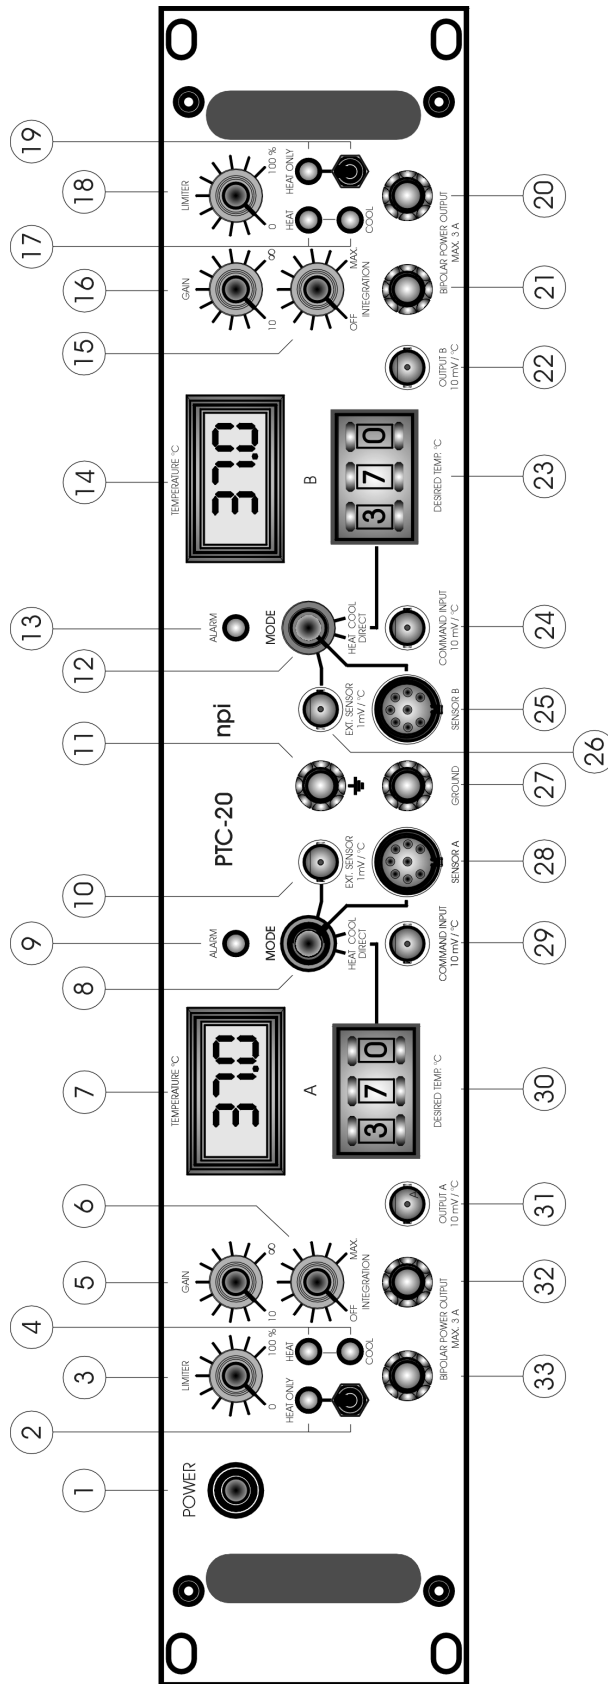

Figure 1: PTC-20 front panel view
In the following description of the front panel elements each element has a number that is related to that in Figure 1. The number is followed by the name (in uppercase letters) written on the front panel and the type of the element (in lowercase letters). Then, a short description of the element is given. Some elements are grouped in functional units (e.g. MODE of operation unit) and are described as units regardless of the order of numbers.
- ☐ Connect the “active” side to the + pole (**33**, Figure 1)
- ☐ Connect the “opposite” side to the - pole (**32**, Figure 1)
Now it is ensured that the “active” side gets hot if the MODE switch (**8**, Figure 1) is set to HEAT and cold if the MODE switch (**8**, Figure 1) is set to COOL in DIRECT mode. The right polarity is also very important for all other operation modes (see chapter 3.6).
In DIRECT mode (no temperature control): the MODE switch (**8** (channel **A**) or **12** (channel **B**), Figure 1) is set to one of the two DIRECT positions:
In both DIRECT modes the control unit is not active, i.e. the output voltage is preset directly at the DESIRED TEMP. control ((**30** (channel **A**) or **23**(channel **B**, Figure 1). With the setting from 000 to 999 the output voltage increases linearly from 0 V to +15 V (DIRECT HEAT) or 0 V to –15 V (DIRECT COOL). The ALARM circuit (see below) is disabled in this mode.
In this mode the output voltage is controlled by the PI controller (PI [proportional-integral controller system] activated). The temperature signal which is used for the control unit is SENSOR A for channel **A** and SENSOR B for channel **B**. The temperature is measured with a small semiconductor or PT100 sensor connected to SENSOR A and / or to SENSOR B and displayed at the respective digital display unit (**7** or **14**, Figure 1, XX.X °C).
If no sensor is connected or if the sensor is damaged or short circuited the internal shut-off unit disconnects the power output. This state is indicated by the red ALARM LED (**9** or **13**, Figure 1) located just above the MODE switch.